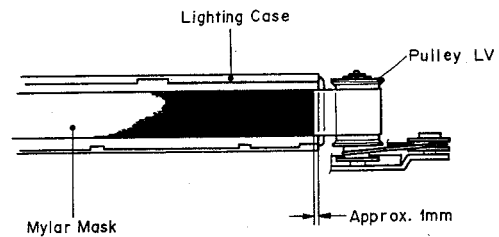
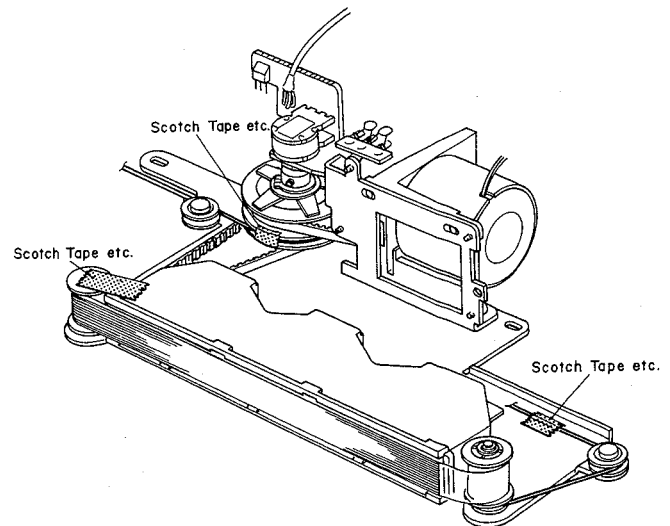

Fig. 5.2.7
Fig. 5.2.8
- (7) Refer to Figs. 5.2.7 and 5.2.8. Manually turn Pulley LV to set the end of the masking of Mylar Mask within approx. 1 mm from the end of the Scale Filter of the Lighting Case. Then fix Pulley RV and Thread A temporarily with scotch tape, etc. as shown in Fig. 5.2.8. Thread A should be wound around the Pulley LV for 1/2 to 1 turn.